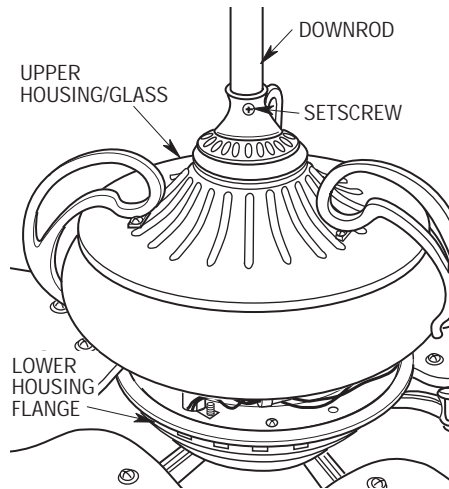

Figure 9
- 17. Thread the three motor wires through the hole in the upper housing. Then slide the upper housing/glass over the downrod until the glass seats evenly in the lower housing flange (Figure 9). After the glass is properly seated, tighten the setscrew in the upper housing.